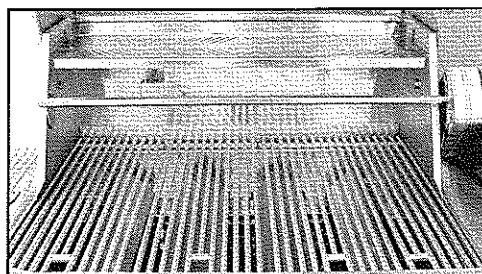

Fig. 5
3. Install cooking grates on the ledges provided on the grill to create your cooking surface. Place warming shelf on support brackets by setting it flat across brackets allowing the two holes to line up with the stops on each bracket. (See Fig. 5)